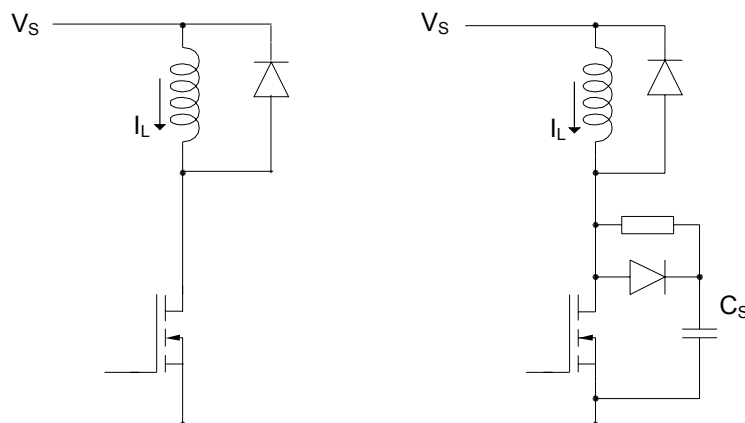

Figure 1 An inductive load switched by a MOSFET alone and by a MOSFET with a snubber.
- (c) Figure 1 shows a mosfet used to switch an inductive load (which may be considered as a constant current load). It is shown with and without a turn-off snubber. Given the following data, calculate the turn-off power loss in the transistor in each circuit and the loss in the resistor of the snubber.
Figure 1 shows a MOSFET used to switch an inductive load (represented here as a constant current source). It is shown with and without a turn-off snubber. Given the following data, calculate the turn-off power loss in the transistor in each circuit and the loss in the resistor of the snubber.